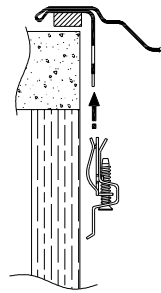

Fig 10:
1. Attach the wall mounted fixing clip to the clip rail and loosen the clip screw to allow the clip to fully extend (fig. 10).